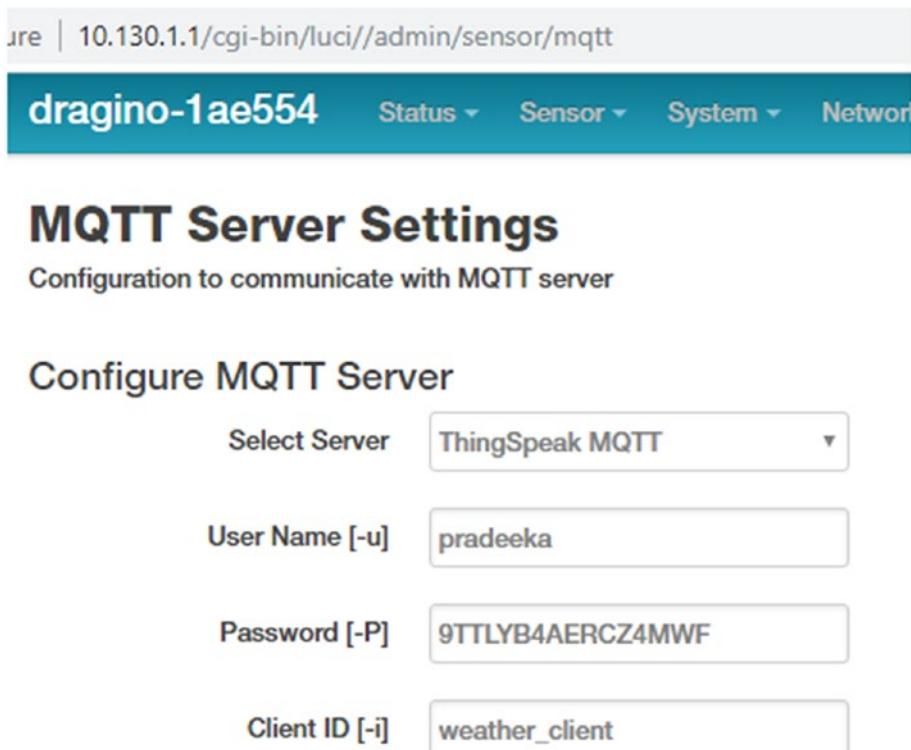

Figure 7-15. MQTT server settings
3. Select Sensor ► MQTT. On the MQTT Server Settings page, fill out the form to configure the LG01 to communicate with the MQTT server (ThingSpeak) (Figure 7-15).